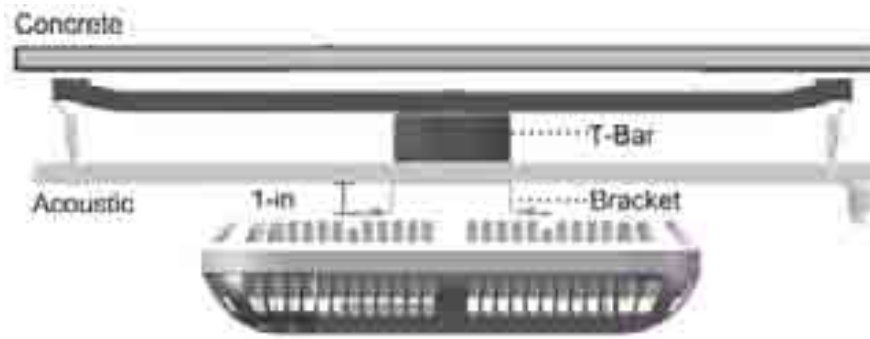

Figure 5-69. Below Acoustic Ceiling Installation
3. Install RAU bracket on the T-Bar, using any of the applicable bracket installation holes. See Figure 5-69.
- Below Ceiling – 1-in minimum between ceiling tile and RAU (shown in Figure 5-69)